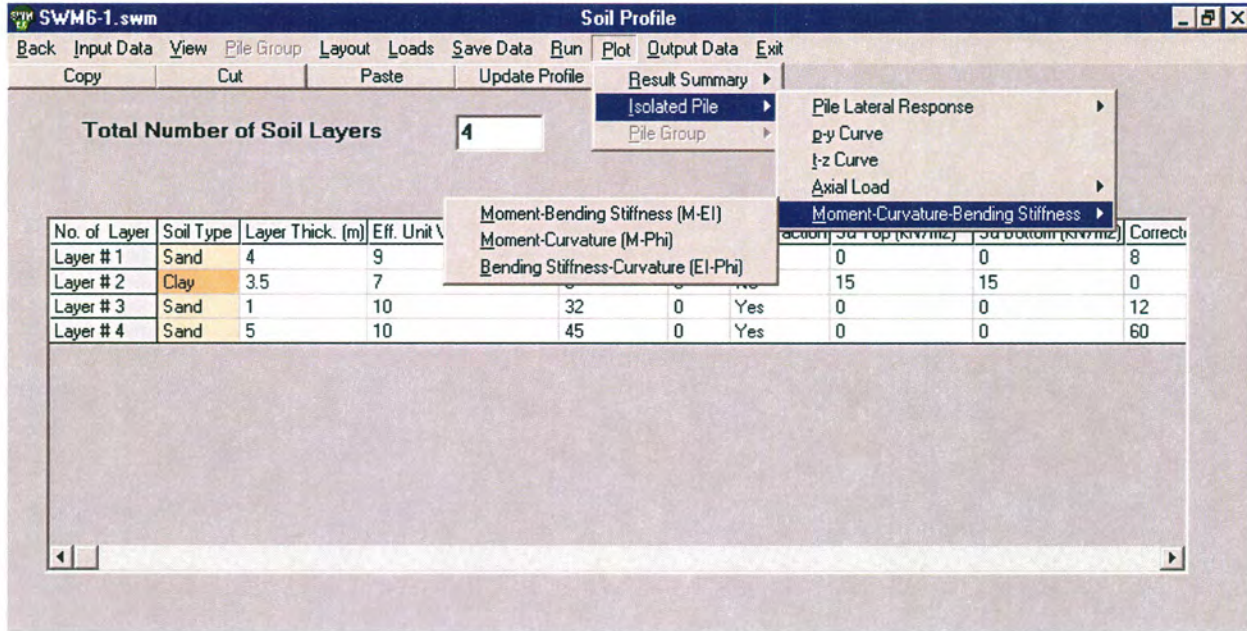

Fig. 26 Pull-Down Menu for the Moment-Curvature-Bending Stiffness Relationships
- **Moment-Curvature-Bending Stiffness ( $M - \phi - EI$ )** [Figs. 26 and 27]